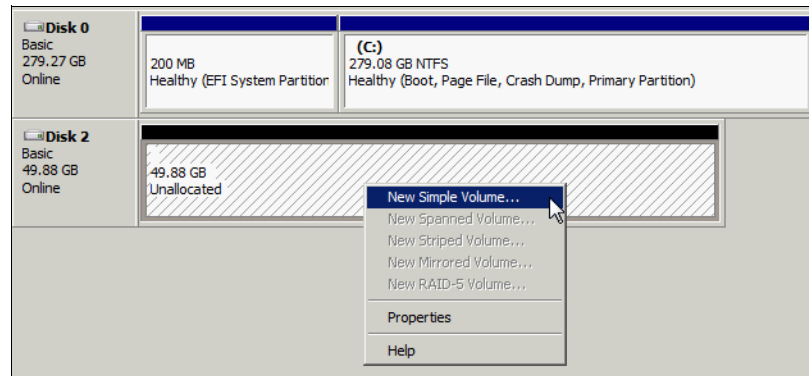

Figure 12-8 New Simple Volume
6. Right-click the right pane and click **New Simple Volume** (Figure 12-8).